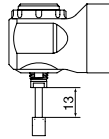

Fig. 15
- 2 Do not exceed 13mm overhang for mounted grindstones. In case overhang must exceed 13mm reduce the motor speed in accordance with Fig. 15.